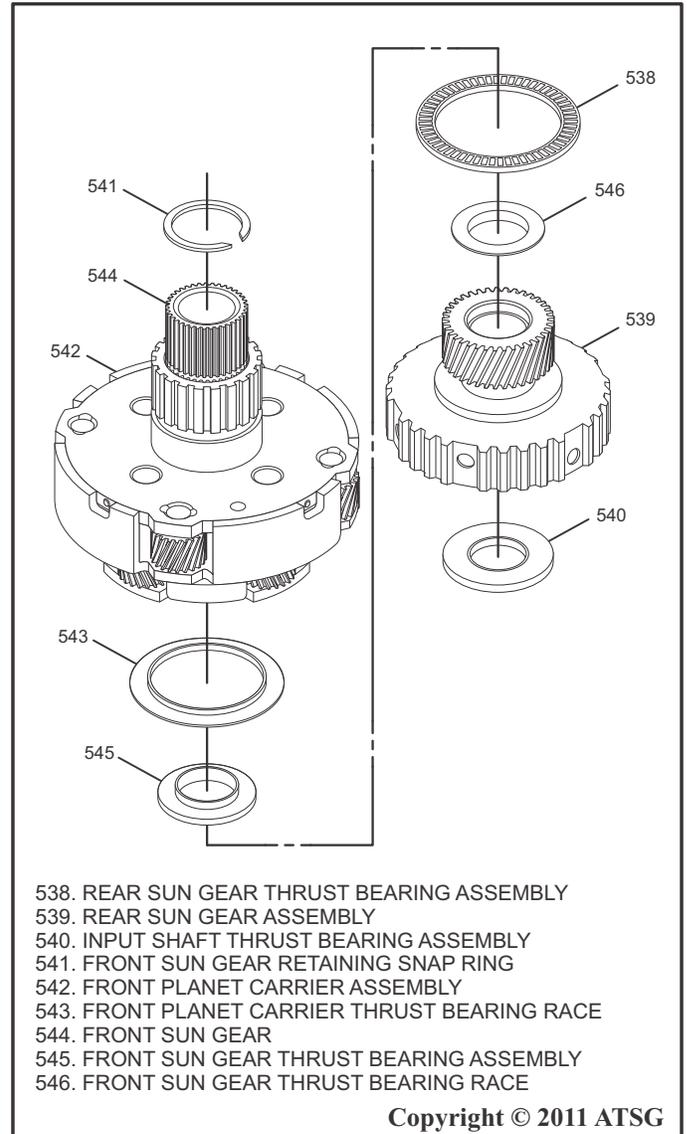

Figure 152
7. Install the Front Sun Gear into the Front Planet Carrier Assembly and install the retaining snap ring as shown in Figure 152.
8. Coat the Front Planet Carrier Thrust Bearing Race and the Front Sun Gear Thrust Bearing with a small amount of Trans-Jel® and install onto the Front Planet Carrier Assembly and the Front Sun Gear as shown in Figure 152.
9. Coat the Rear Sun Gear Thrust Bearing Assembly, the Front Sun Gear Thrust Bearing Race and the Input Shaft Thrust Bearing Assembly with a small amount of Trans-Jel® and install onto the Rear Sun Gear Assembly as shown in Figure 152.